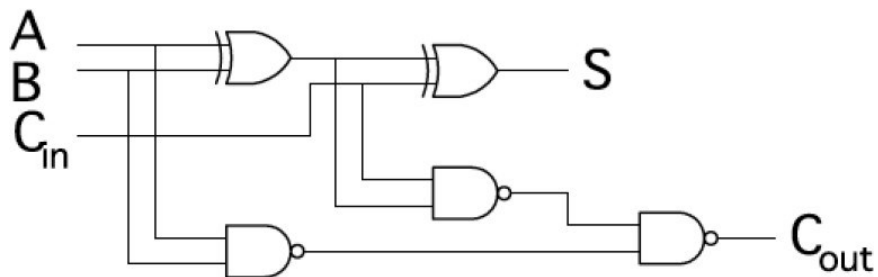

Figure 3: The full-adder
4. The full adder is a combination of two half-adders to produce a combinational logic circuit with a sum output ( $S$ ), and a carry output ( $C_{out}$ ) from inputs  $A$ ,  $B$ , and  $C_{in}$ . Figure 3 illustrates the full-adder combinational logic circuit. This arrangement permits fast parallel organization for the addition of  $n$ -bit numbers. This circuit is the basis for many arithmetic functions, such as, subtraction, multiplication, and division. Build this circuit and verify the truth table. Use switches for inputs and LEDs for output(s).